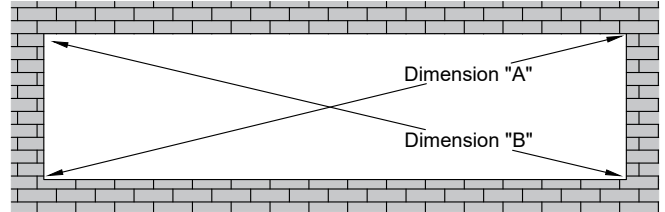

FIG. 1.
- A. Make sure the opening is square and plumb. Measure each diagonal of the opening. **SEE Fig. 1.**